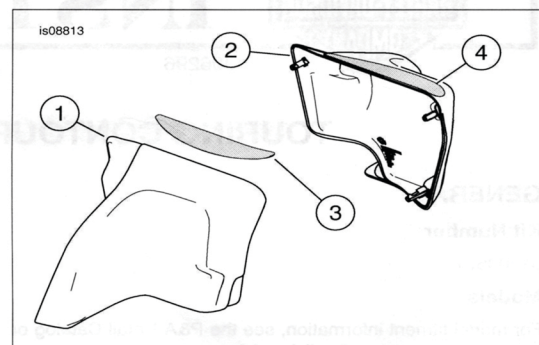

Figure 1. Service Parts: Touring Side Cover Kit
1. See Figure 1. Wash mounting areas thoroughly. Allow to dry completely.
- See Figure 1. Identify each film piece and its mounting location before proceeding. The film pieces are side-specific.